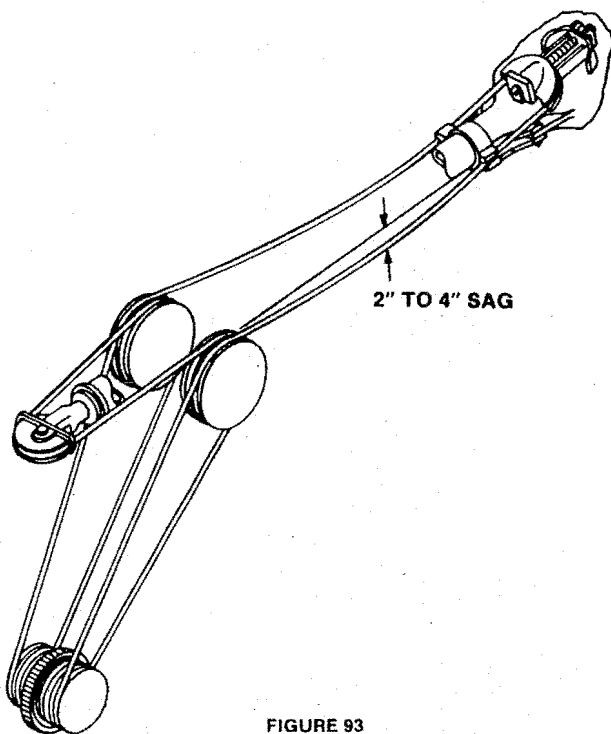

FIGURE 93
15. Remove as much slack as possible from the retract rope with the take up mechanism. Hoist the dipper handle to a horizontal position and measure the sag in the sheave and the front spreader. The ropes are correctly adjusted when the sag is between 2 and 4 inches (figure 93). If the machine is equipped with a crowd limit switch have an electrician adjust it. Recheck the drum wedge for tightness.